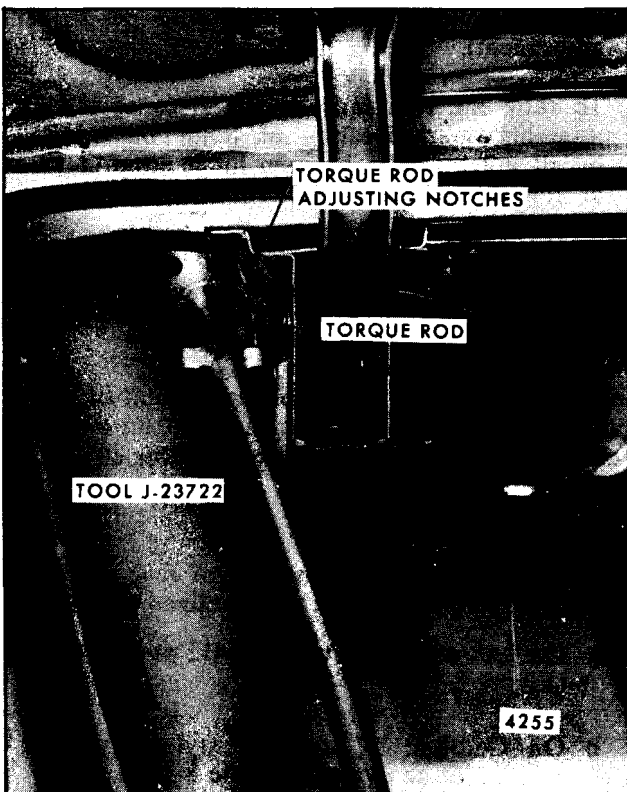

Fig. 8-15-Rear Compartment Torque Rod Adjustment - Cadillac "C and E" Styles
- b. On Cadillac "C and E" styles, use tool J-23722 or equivalent (Figure 8-15).